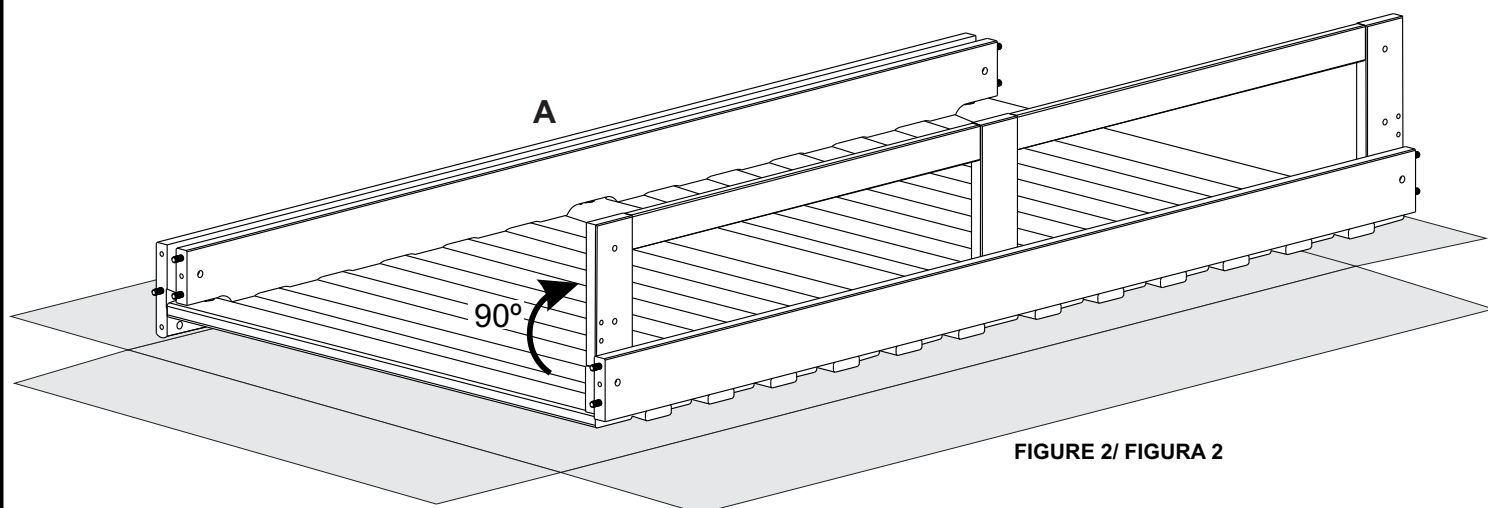

FIGURE 2/ FIGURA 2
2.1 - UNFOLD THE EXTENSIBLE BACK FRAME, AS SHOWN ON FIGURE 2.
2.1 - DÉPLIEZ LE CADRE EXTENSIBLE, COMME INDIQUÉ À LA FIGURE 2.